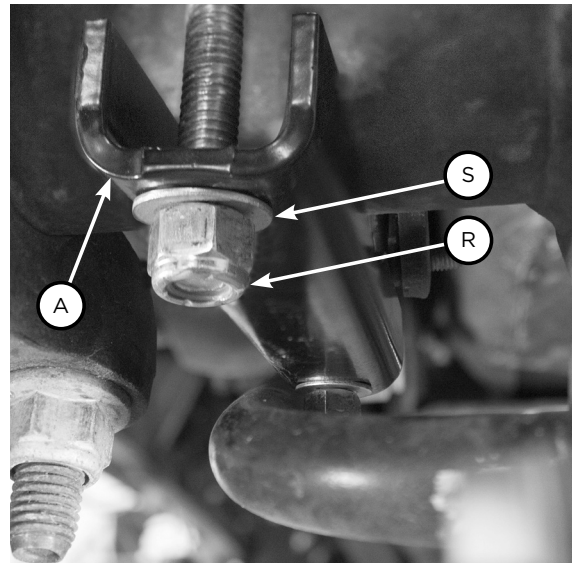

Fig. 21
- Set the lower clamp bar (A) over the carriage bolts under the axle (Fig. 21). Attach with 3/8" flat washers (S) and 3/8"-16 nylon lock nuts (R). Evenly torque the lower clamp bar hardware to 16 lb.-ft. (22Nm). Finish tightening the U-bolt hardware previously snugged by torquing to 10 lb.-ft. (14Nm).